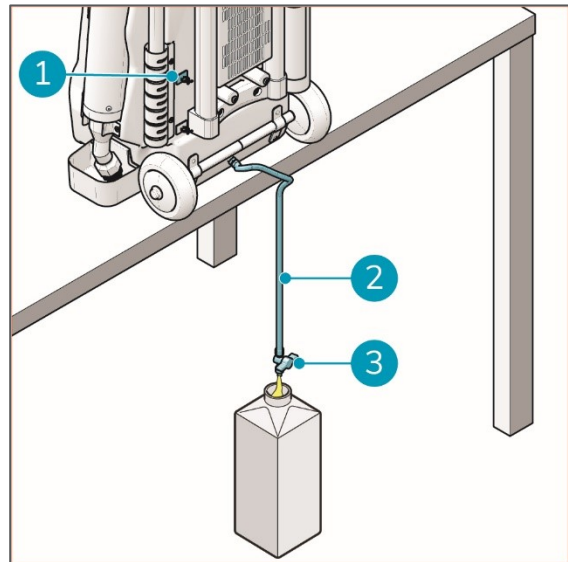

Figure 20
2. Release the drainage tube (fig 20, pos 2) via the clips (fig 20, pos 1).
5. Open tap (fig 20, pos 3).
6. When empty close tap (fig 20, pos 3).
8. Replace drainage tube (fig 20, pos 2) using clips (fig 20, pos 1).